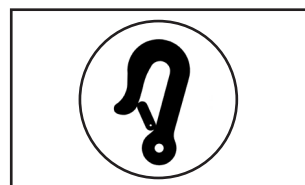

Figure 1
Driving up a sidewalk can be done forward, driving down a sidewalk is better done backwards. (Figure 1).
- The positions of the four attachment points on the NEOX are indicated by a hook symbol sticker (see Figure 1).